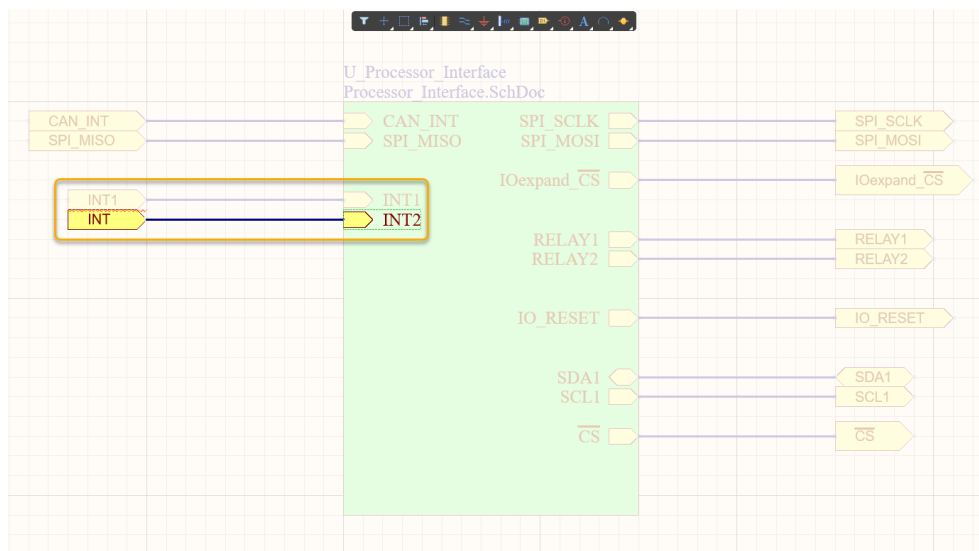

Figure 10. Port INT not matched to Sheet Entry
34. In the messages panel double-click on the message Port INT not matched to Sheet Entry, to jump to the schematic with the violation, as highlighted in Figure 10.